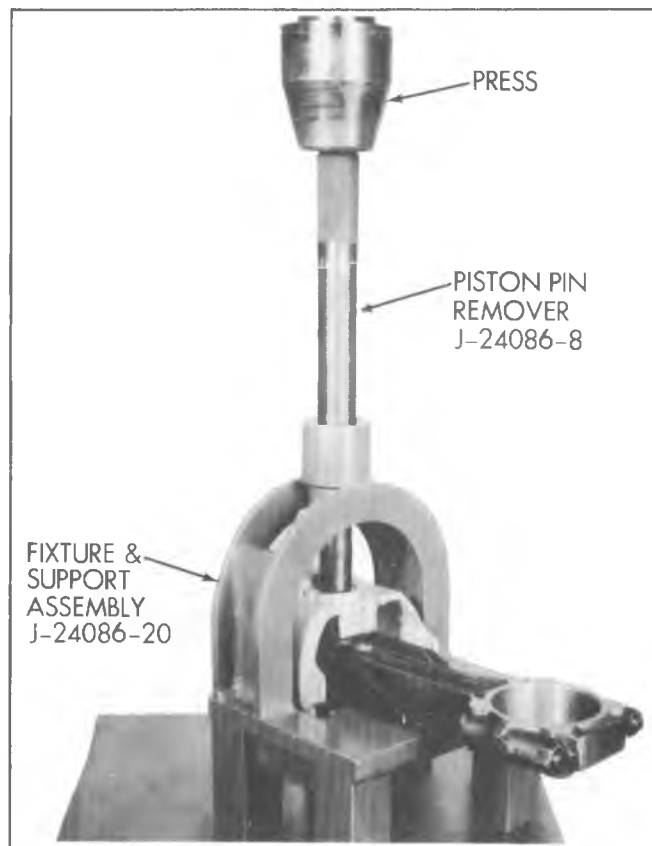

Fig. 6A4-52--Removing Piston Pin
3. Place connecting rod and piston assembly on Tool J-24086-20. Using an arbor press and piston pin remover, J-24086-8, press the piston pin out of connecting rod and piston (fig. 6A4-52).